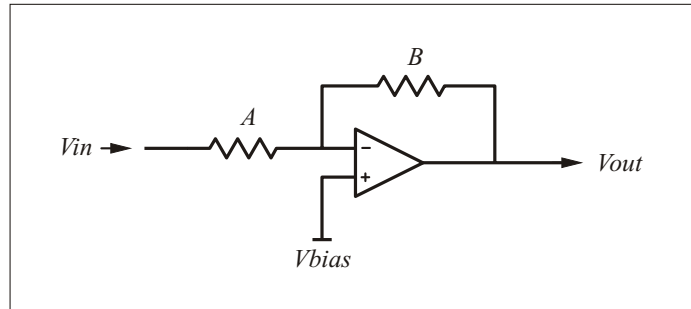

Figure 15: Biased inverting op amp circuit
This equation is derived using the fact that the negative feedback drives the - input to match the + input, and the op amp input currents are negligible. As an example, if $A = 2B$ and $V_{bias} = 5/3$, then the transfer equation for Figure 15 is:
and an input range of (-5,+5) is mapped into an output range of (5,0). This result should be compared with equation (9) for a two resistor passive design, as well as comparing equations (25) and (6). The op amp circuit adds an inversion, but otherwise the design steps for various input and output ranges are comparable. As with a two resistor divider, odd bias voltages like 5/3 may be required. *However*, here you can generate the bias with a simple unbuffered resistor divider because the high input impedance of the op amp + input will not load the divider. Taking this approach Figure 15 becomes:
Description : standard Inverting amplifier with bias, (Figure 15)